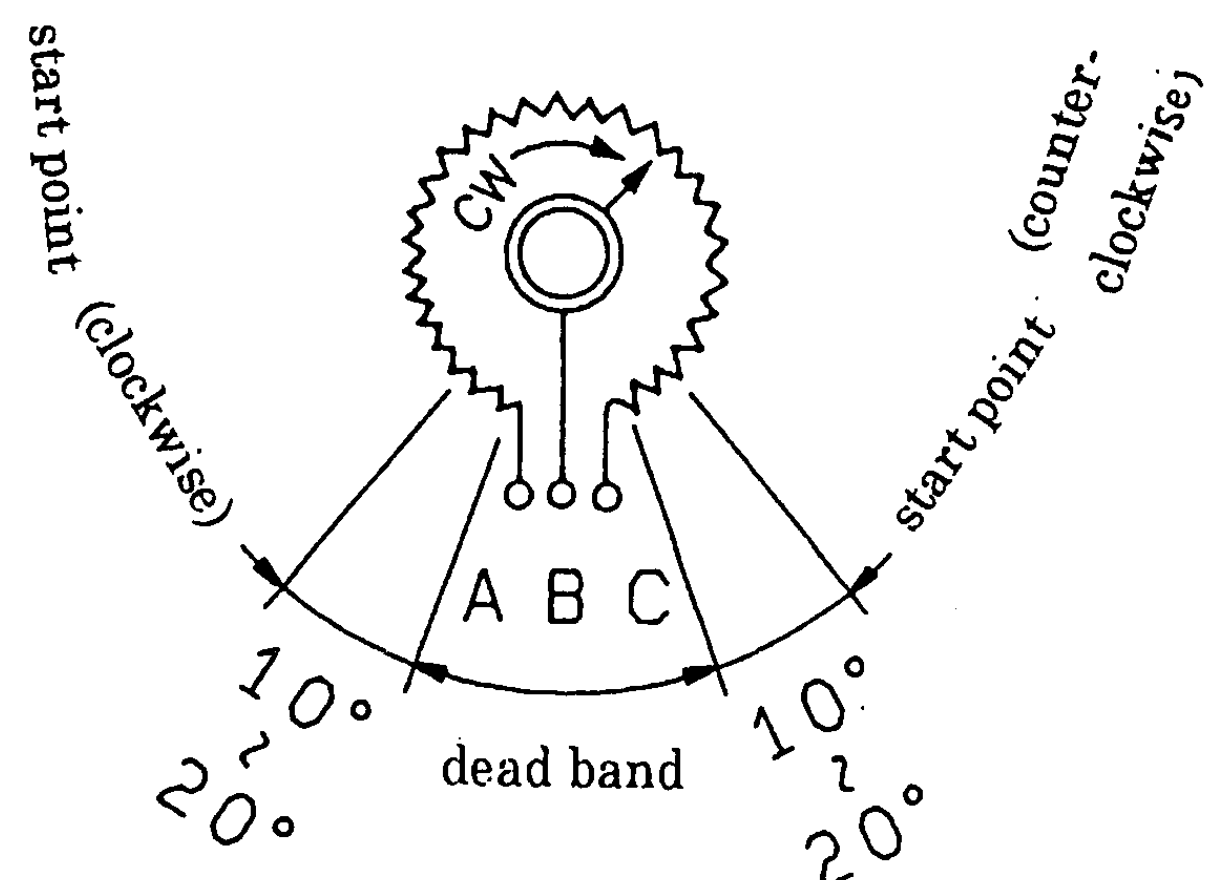

Fig.3 Potentiometer
- ③ Loosen potentiometer set screws applying power and ensuring output current, then rotate the potentiometer $10^{\circ} \sim 20^{\circ}$ away from dead band (see Fig.3) to decide the start point. Settle the potentiometer with the screws again(Refer " Cautions " !)
- ④ Adjust zero · span with variable resistor.